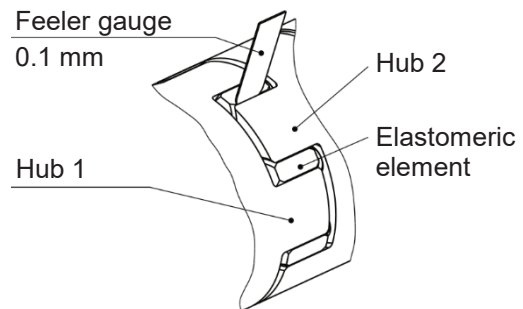

Fig. 20
No abraded particles are allowed on the elastomeric element (6), as the ROBA®-ES is a backlash-free coupling. The gap between two claws must be filled with the elastomer, with no room for backlash. You should not be able to insert a feeler gauge with a thickness of 0.1 mm (Fig. 20).